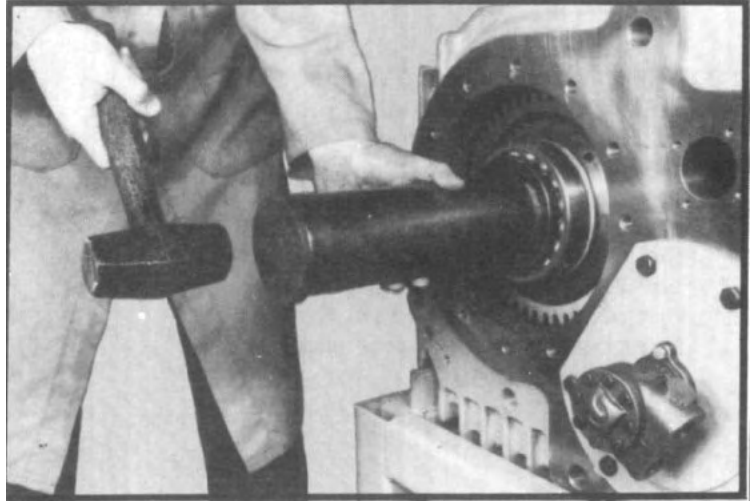

Fig. 106
- 1.12 Tap lower shaft rear roller bearing over the shaft and snug against the thrust washer with a suitable driver. (See fig. 106.) With a feeler gauge, measure the end play between gear ends and thrust washers. There should be .015-.020 end play on both gears.